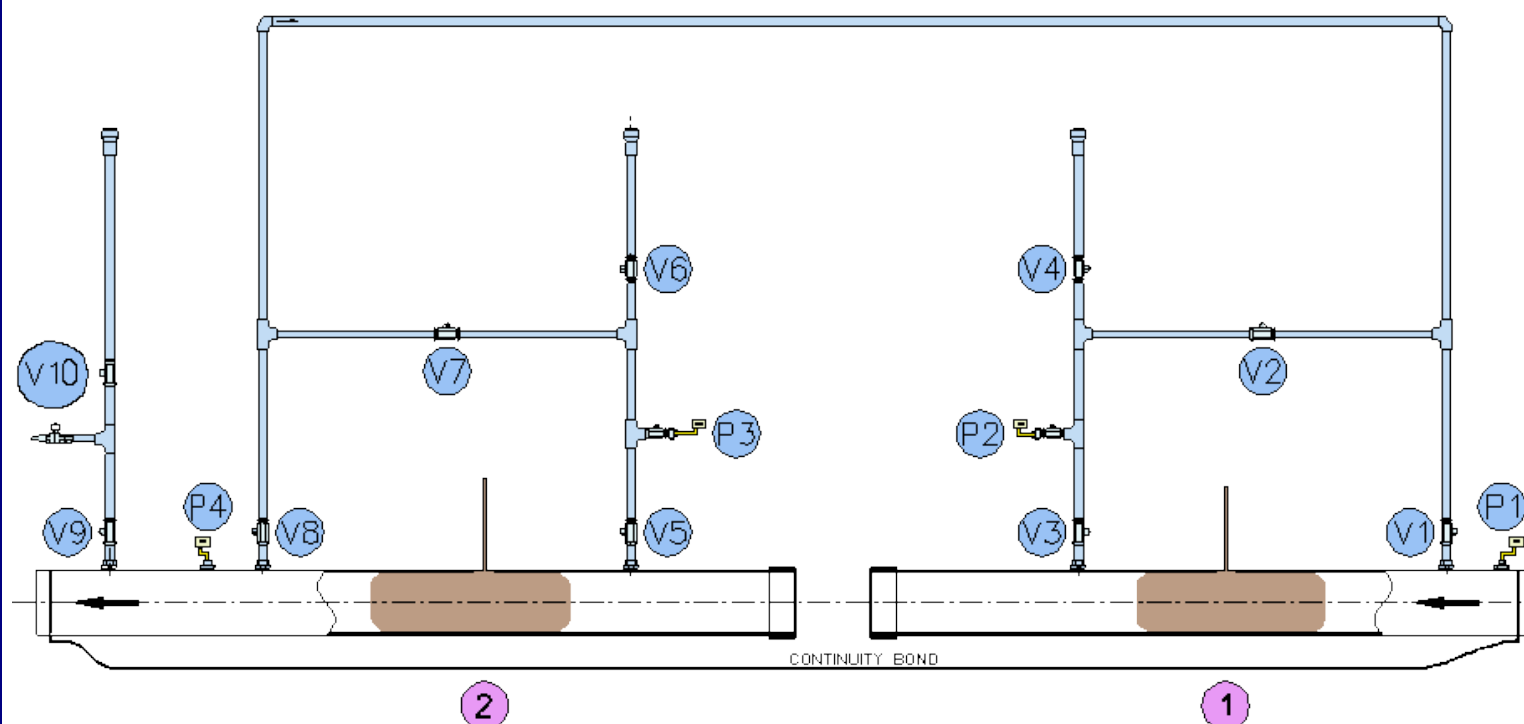

Figure 85- Cut & Capped Main
2. Refer to Figure 85, open valves V2 & V3 and valves V5 & V7 check that valves V4 & V6 are closed.